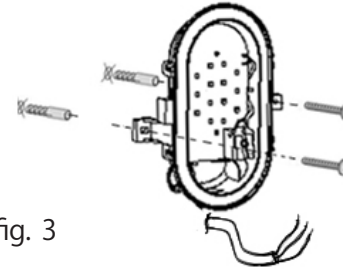

fig. 3
**fig. 3:** Hold the housing against the wall and mark drill points, drill the holes, insert the dowel. Use suitable material for wooden walls or lightweight walls. Fasten the light housing with the screws.